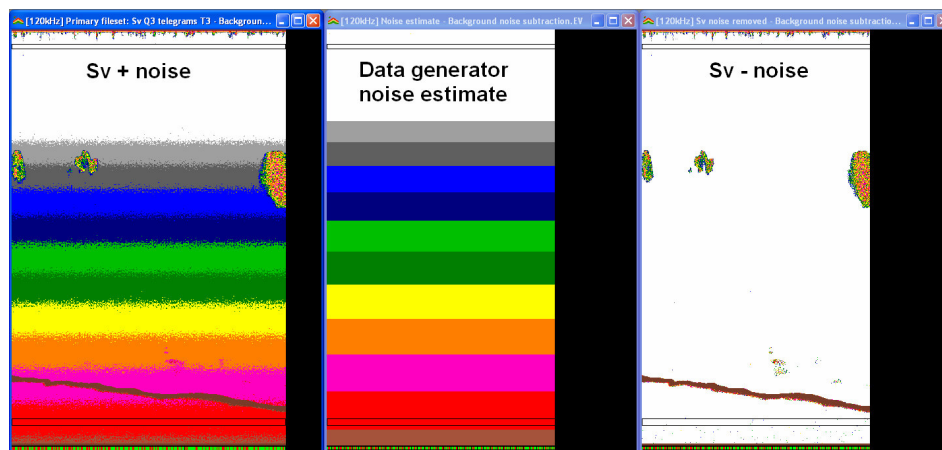

Figure 19. Sv echograms from the Background noise subtraction .EV file. Sv+noise, Data generator modeling TVG noise, Sv – noise.
The echogram and the ping graph shows the wanted echo, echo from the seabed and ‘TVG’ noise as displayed in Figure 19 and 20.
- Arrange the echograms so that you can see all of them (See Figure 19).